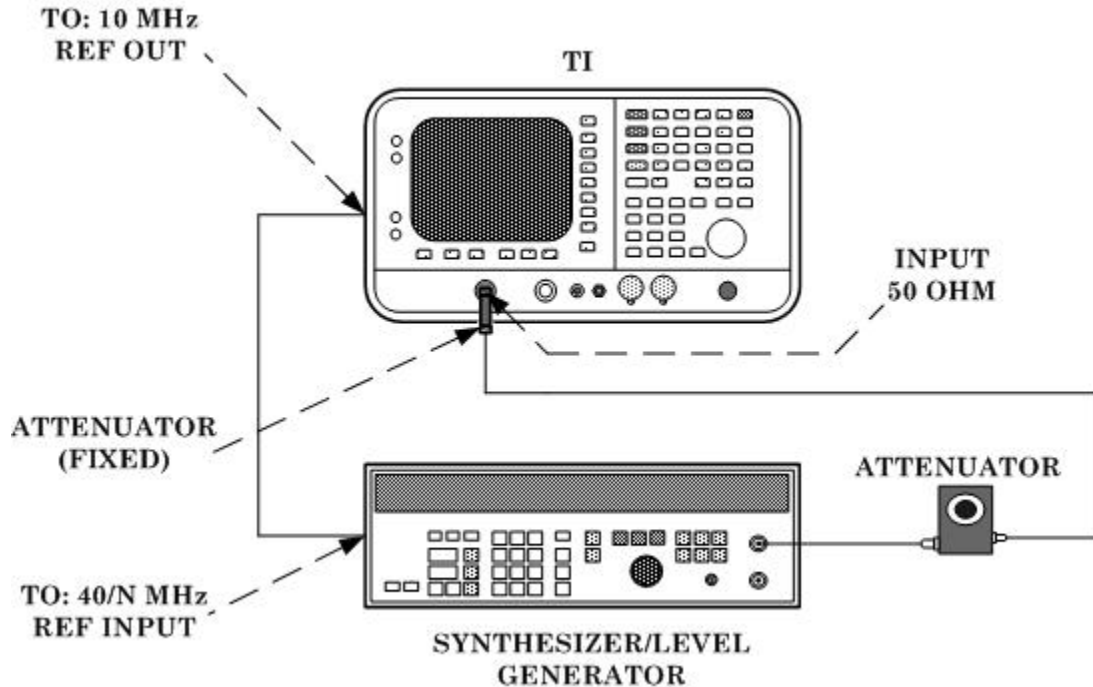

Figure 3. Reference level accuracy equipment setup.
(1) Connect equipment as shown in figure 3.